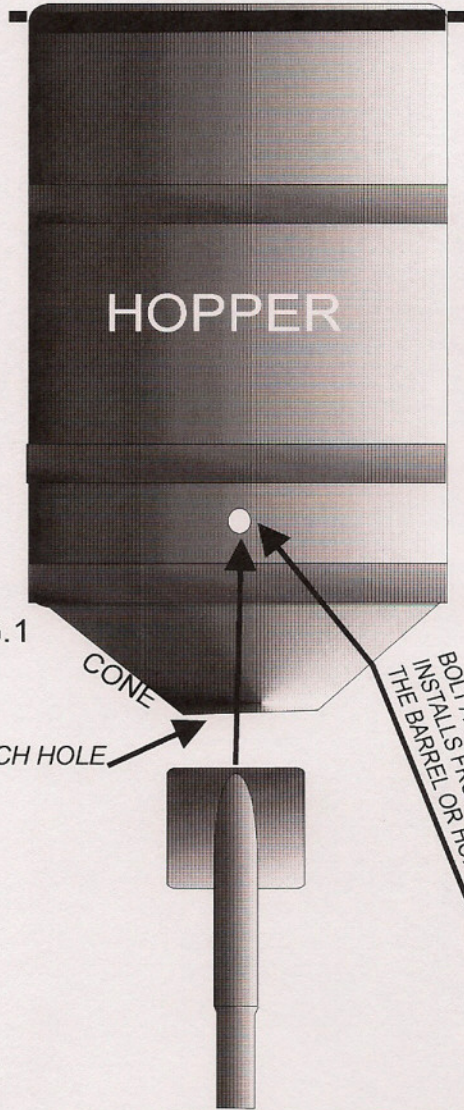

FIG. 1
STEP 1. INSTALL ONE OF THE THREE LEG BRACKETS AS ILLUSTRATED IN FIG. 1
STEP 2. INSTALL THE TWO REMAINING LEG BRACKETS AS ILLUSTRATED IN FIG. 1. USING THE BOLTS AND WASHERS FROM FIG. 3 THE FINISHED INSTALLATION SHOULD LOOK LIKE FIG. 2